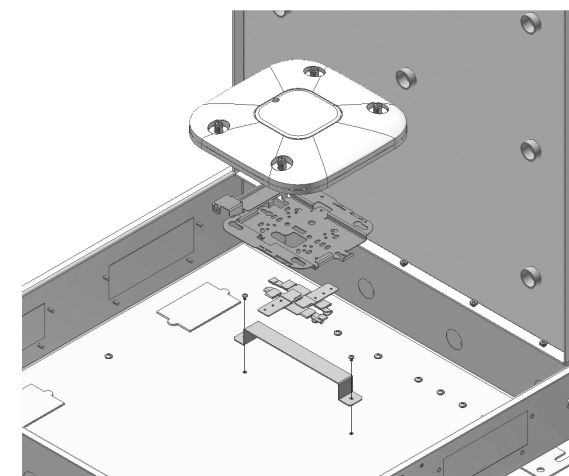

Figure 4
Step 4 – (**Only for Model 1074-ANT7**) If attaching wireless access points or cellular devices use the optional T-Bar Bracket (Oberon P/N 1972 not included). Mount the access point to the bracket per the manufacturer's directions. Remove hole plugs to attach antennas to the door of the enclosure (Figure 4).